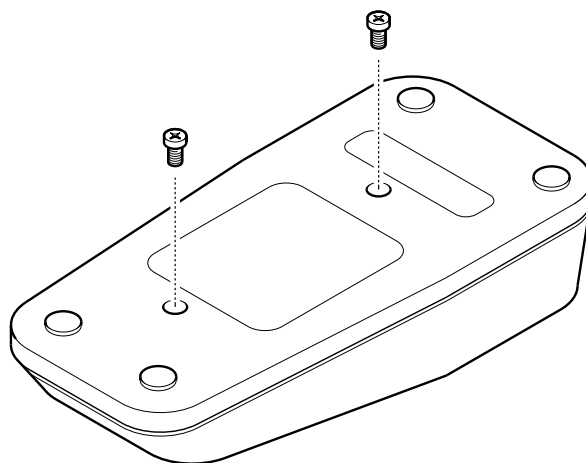

Figure 13: Case screw removal
- Figure 13 Place the Dual Charger upside down on a flat work surface. Remove the two case screws.